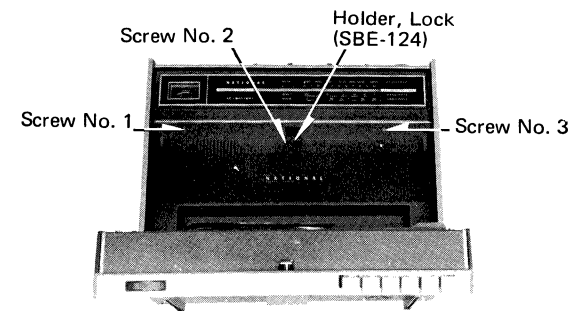
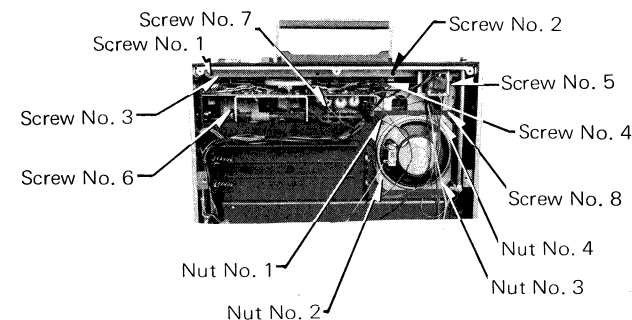

Fig. 9
Fig. 10
2. Remove three (3) escutcheon mounting screws, Nos. 1-3 as shown in Fig. 9.
3. Remove five (5) knobs from escutcheon.
4. Remove two (2) chassis mounting screws, Nos. 1-2, as shown in Fig. 10.
5. To remove chassis completely, remove six (6) chassis mounting screws Nos. 3-8 from escutcheon, as shown in Fig. 10.
2. Remove four (4) speaker mounting nuts, Nos. 1-4 as shown in Fig. 10.
3. Unsolder two (2) lead wires (white & black).